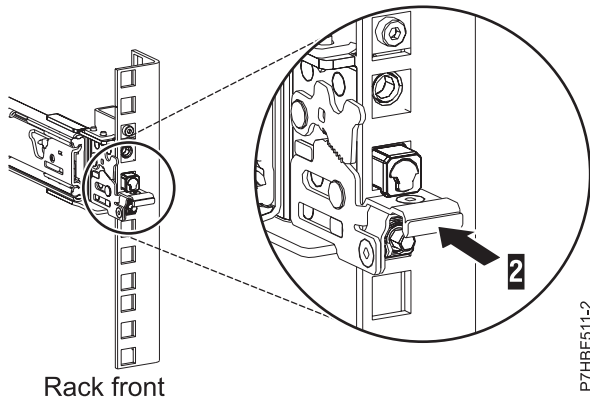

Figure 7. Rack front rail with latch seated
5. Push the front latch (2) in all the way. Make sure that the latch is fully seated, as shown in Figure 7 on page 8.